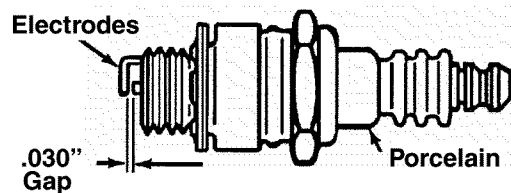

Figure 18
- Replace the spark plug if electrodes are pitted, burned, or the porcelain is cracked. See Figure 18.
- Clean the spark plug and reset the gap to 0.030" at least once a season or every 50 hours of operation. See Figure 18.